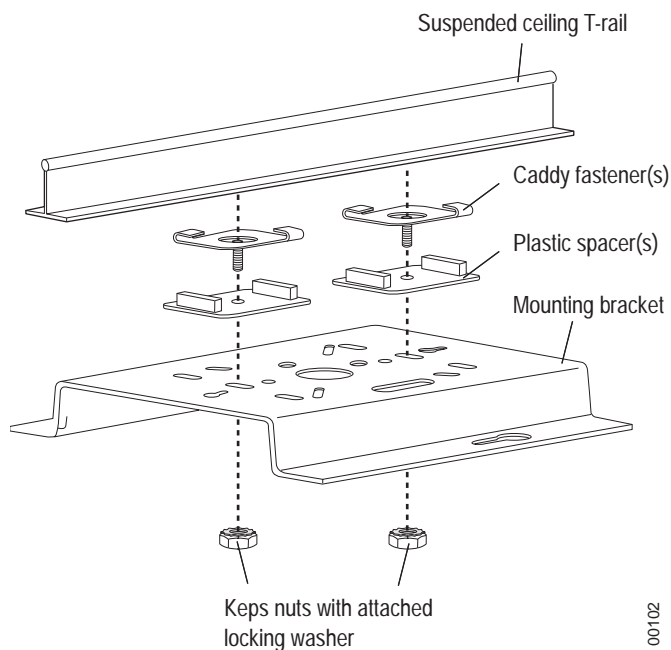

Figure 22: Mounting the AP150 to a Suspended Ceiling Rail
The optional suspended ceiling mounting kit allows the AP150 mounting bracket to attach to suspended ceiling T-rails (see Figure 22).
7. Adjust the height of the box hanger using the height adjusting screws (see Figure 22).